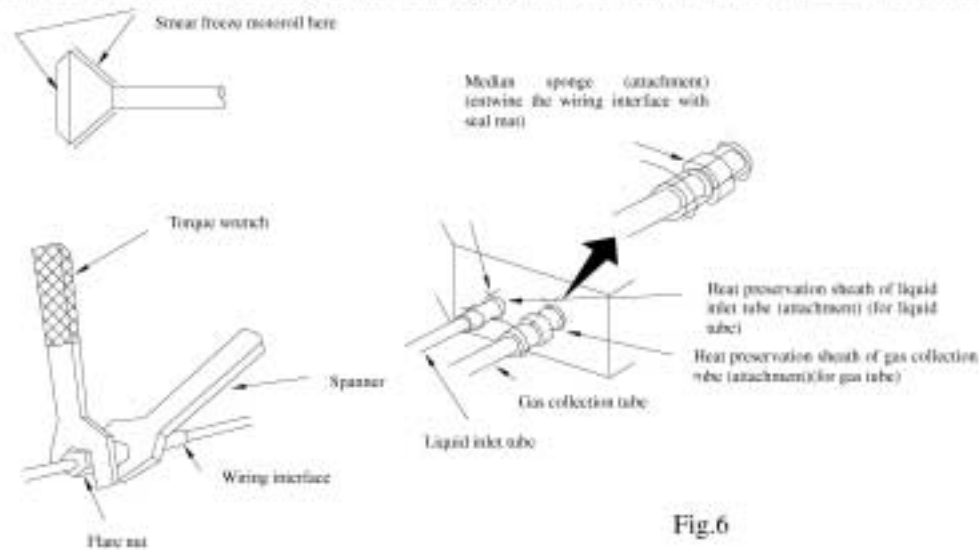

Fig.6
- ☆ When connect the pipe to the unit or backout it from the unit, please do use both spanner and torque wrench. As show in Fig.6.
- ☆ Examine the connection pipe to see if it had gas leakage, then take the treatment of heat insulation, as shown in the Fig. 6.